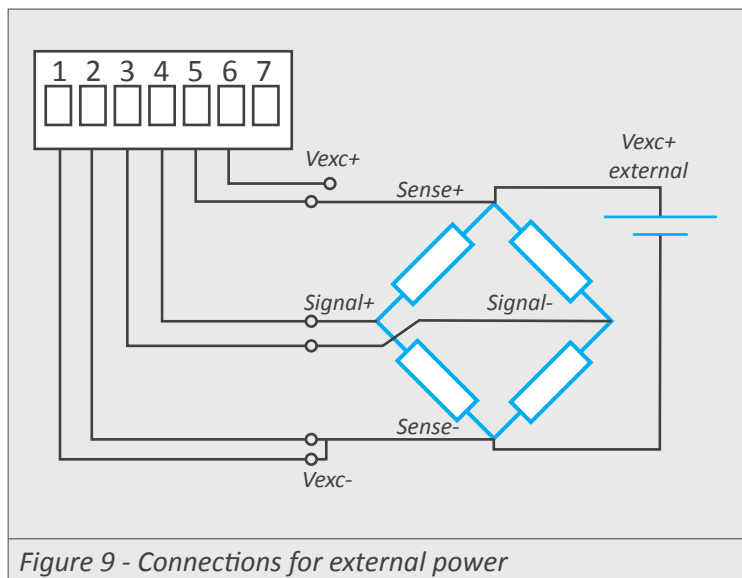

Figure 9 - Connections for external power
- Connect the load cell normally, and **do not** connect 'Vexc+'. Connect 'Sense+' and 'Sense-' to the load cell. 'Vexc-' must be connected to 'Sense-'. See Figure 9.